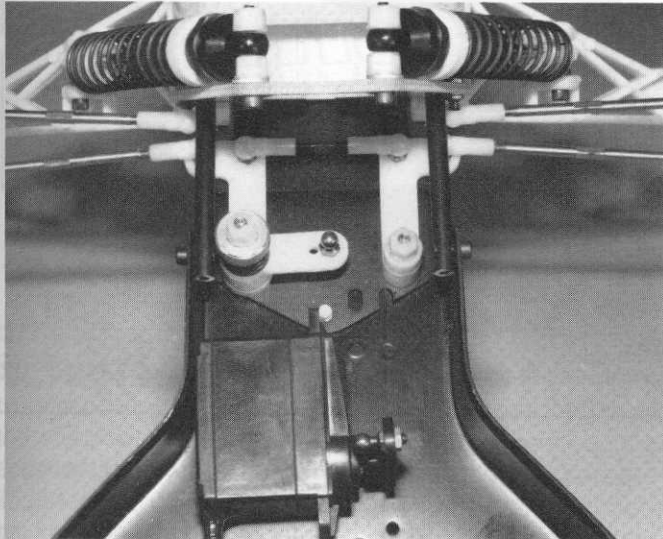

Fig. 130
□ **Figs. 130 & 131** Place your servo on your chassis, where shown, and take a pencil and go around the servo outlining the servo on the chassis. Now, take a piece of the #4326 servo tape, cut it off and stick it to the bottom of the servo. This stuff is very sticky, so be careful to position it right the first time. Peel off the backing. Now, very carefully position the servo directly above your pencil outline and press the servo against the chassis very firmly.